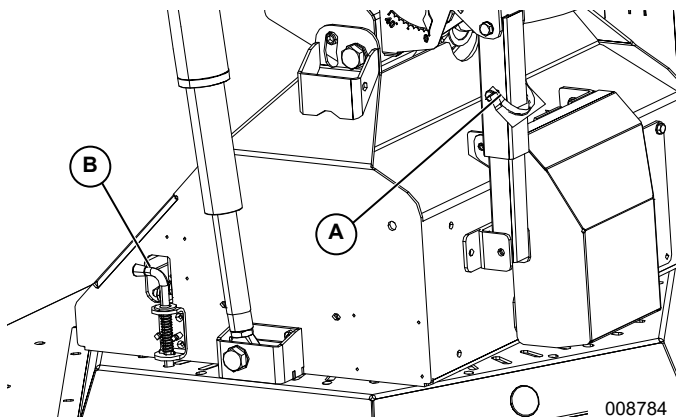

Figure 3-4. Transport Safety Locks
4. See **Figure 3-4**. Connect power cable to socket (D)
5. See **Figure 3-4**. Open water control valves (B).
- See Figure 3-4. Verify transport lock (D) and (E) are disengaged. For more information, see Using Transport Locks.